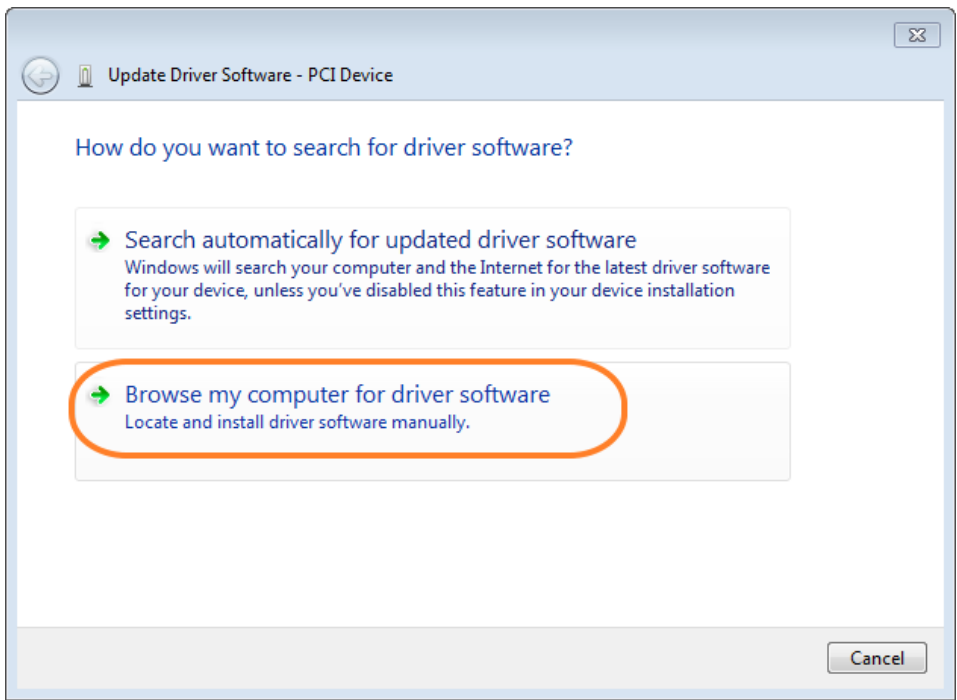

Figure 7-4 Dialog of Browse my computer for driver software
6. In the **How do you want to search for driver software** dialog, click **Browse my computer for the driver software** item, as shown in **Figure 7-4**.